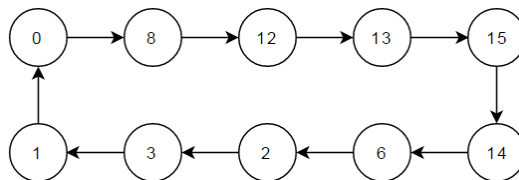

Figure 5.6.1: State diagram of count sequence
- The count sequence given by the state diagram of Figure 5.6.1.